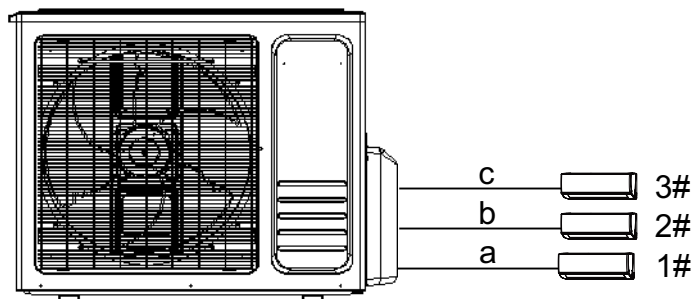

Fig.9
3. Example: Set of 27K air conditioners installed as follows:Fig.9